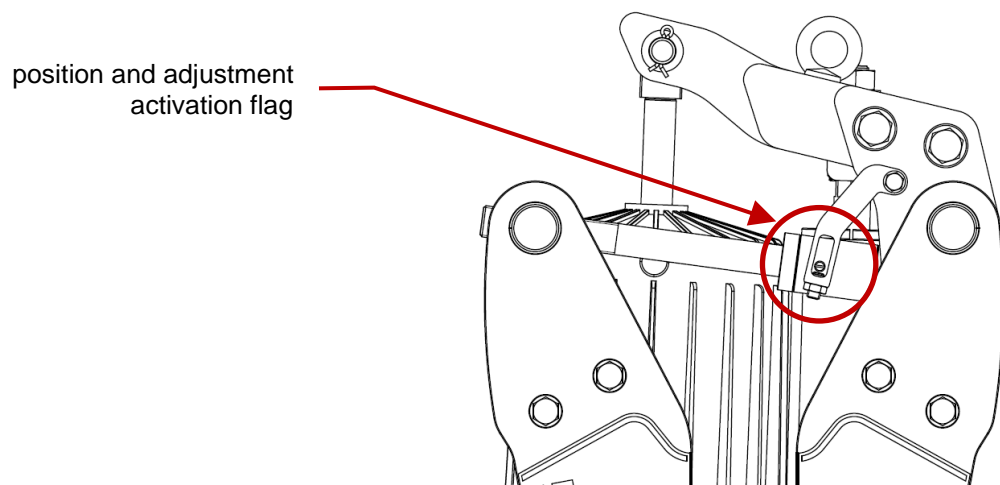

Fig. 12: adjustment activation flag in open condition
- The size of the activation window of the automatic wear compensation must be adjusted (see Fig. 12). To do this, loosen the lock nut of the adjustment screw and, if necessary, turn the adjustment screw back until it opens the activation window to the maximum. The screw should be turned back as far as possible at the factory.